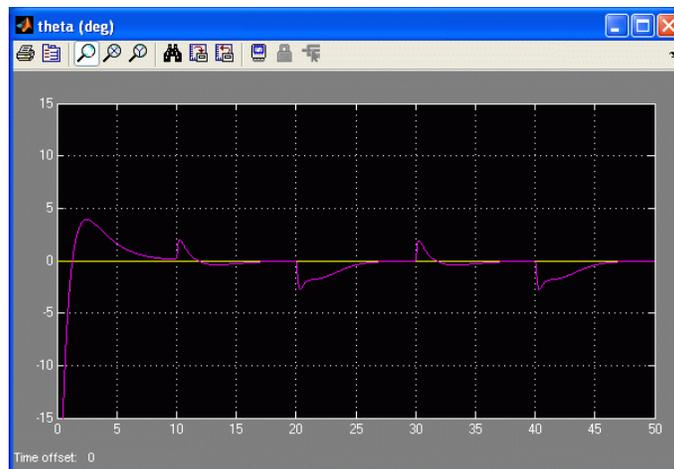
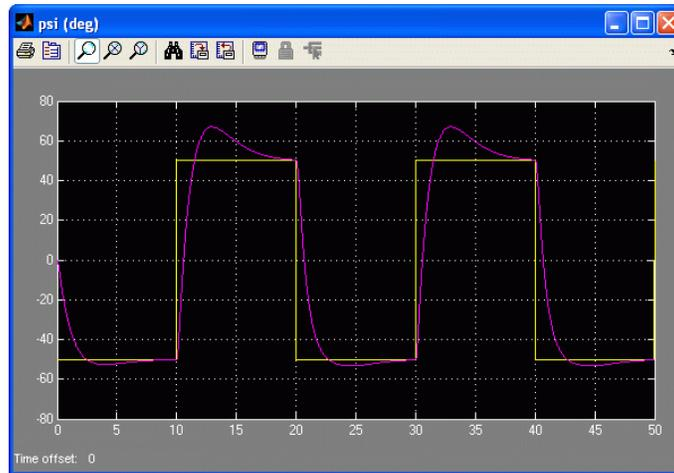
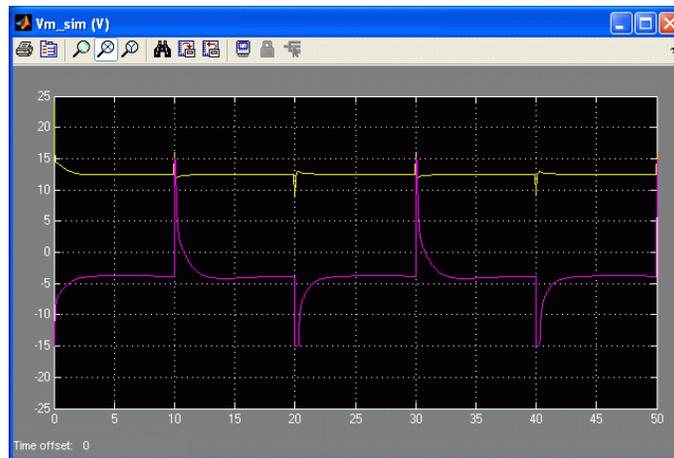

Figure 5.8: Simulated pitch response under a desired yaw reference step using LQR+I
Figure 5.9: Simulated yaw response under a desired yaw step using LQR+I
Figure 5.10: Simulated front and back motor voltage under yaw reference step using LQR+I
14. Run the simulation and the responses shown in Figure 5.8, Figure 5.9, and Figure 5.10 should be obtained. The yaw voltage saturates the back amplifier at -15 V